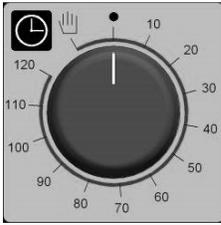

Fig. 3
**Programming cooking time** - To run the oven, turn the programmer knob (Fig. 3) in line with symbol  (continuous operation) or in line with the selected cooking time (up to 120 minutes). In the second case, end of cooking is signalled by the oven switching OFF automatically.